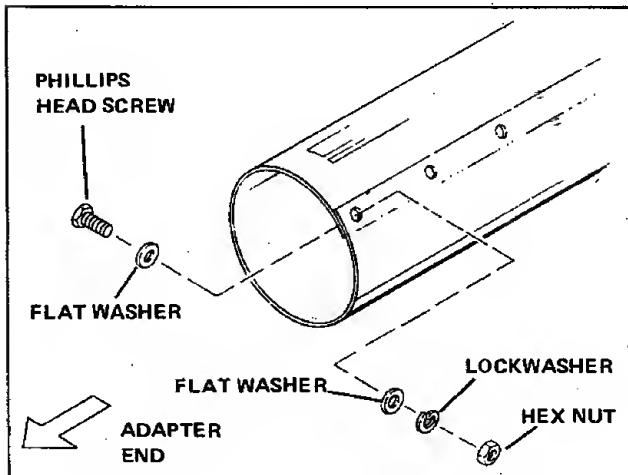
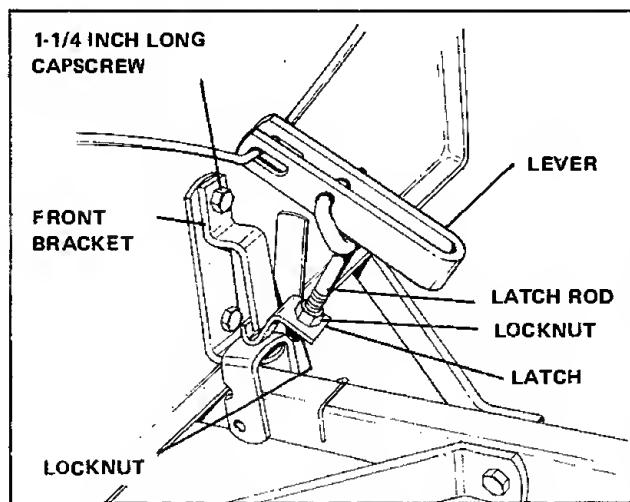

Figure 15. Assembling Inlet Tube
Figure 24. Assembling Front Latch
5. Assemble the inlet tube with the phillips head screws, flat washers, lockwashers and nuts provided. Place a flat washer on each screw, and insert the screws from the inside of the tube, placing a flat washer, lockwasher, and nut on each screw on the outside of the tube. (See figure 15.)
9. Attach bracket to front of cart with 1-1/4 inch long capscrew (figure 24.)
11. Insert rear latch rod through lever holes and secure it with a cotter pin (figure 15). Install locknut, latch, and locknut on latch rod. With lever in closed position, adjust latch until it is securely hooked under cart. Repeat procedure for front side with latch tight under bracket (figure 24).